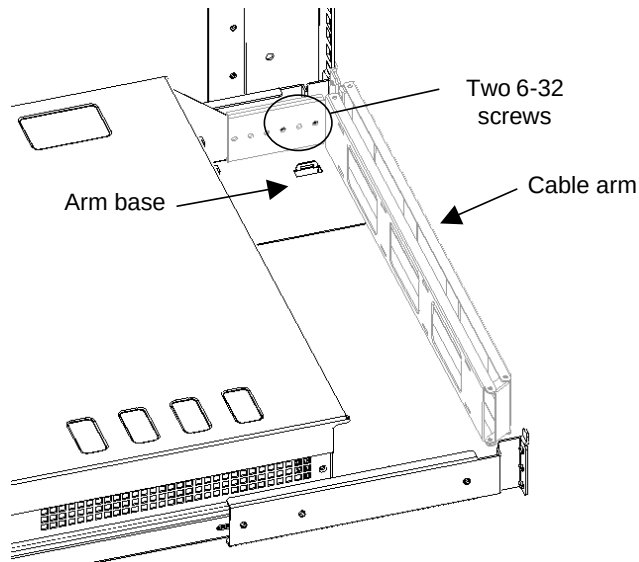

Figure 2-15. Installing the Cable Arm to the Arm Base
2. One end of the cable arm includes a long hinged bracket with six mounting holes. The other end of the cable arm includes a small hinged bracket with two mounting holes. Using two 6-32 screws attach the end of the cable arm with the long hinged bracket to the Arm Base installed in the previous step. See Figure 2-15.